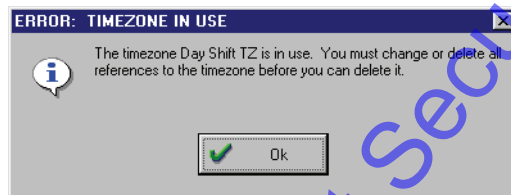

Figure 3-6: Timezone In Use Error Message
8. If the time zone is still in use somewhere in the *Doors* program, the Timezone In Use Error message appears (see Figure 3-6).